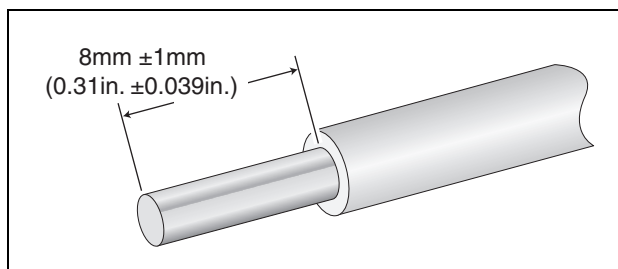

Figure 72. Stripped Wire
4. With a 14-gauge wire-stripping tool, strip the three wires in the tray cable coming from the DC input power source to $8\text{ mm} \pm 1\text{ mm}$ ($0.31\text{ in.} \pm 0.039\text{ in.}$), as shown in Figure 72.